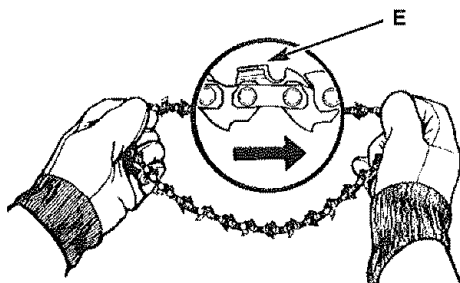

Fig. 24
1. Spread chain out in a loop with cutting edges (E, Fig. 24) pointing CLOCKWISE around loop.